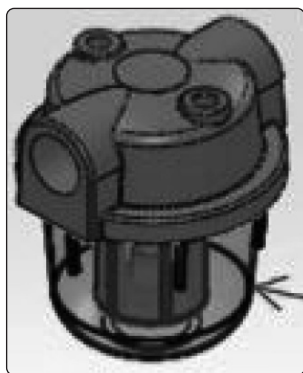
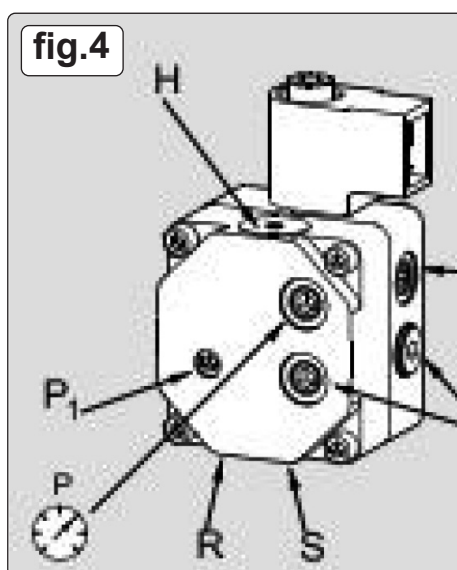

fig.3
fig.4
- 7.7.1. Clean fuel filters by unscrewing the filter tray (clockwise) Remove the filter cartridge and wash it with petrol or replace it if necessary. Check seal O-ring and replace it if necessary. Reassemble the tray, fig.3. The fuel filter installed on the gear pump should be cleaned or replaced if necessary by unscrewing cap H, fig.4.
- 7.9.2. Remove pressure gauge cap (P) fig.4. Connect a pressure gauge on the pressure measuring port on pump. Start heater and read fuel pressure value. If necessary adjust pressure to the correct value turning the adjusting screw (P1) fig.4, clockwise to increase, anticlockwise to decrease the pressure: